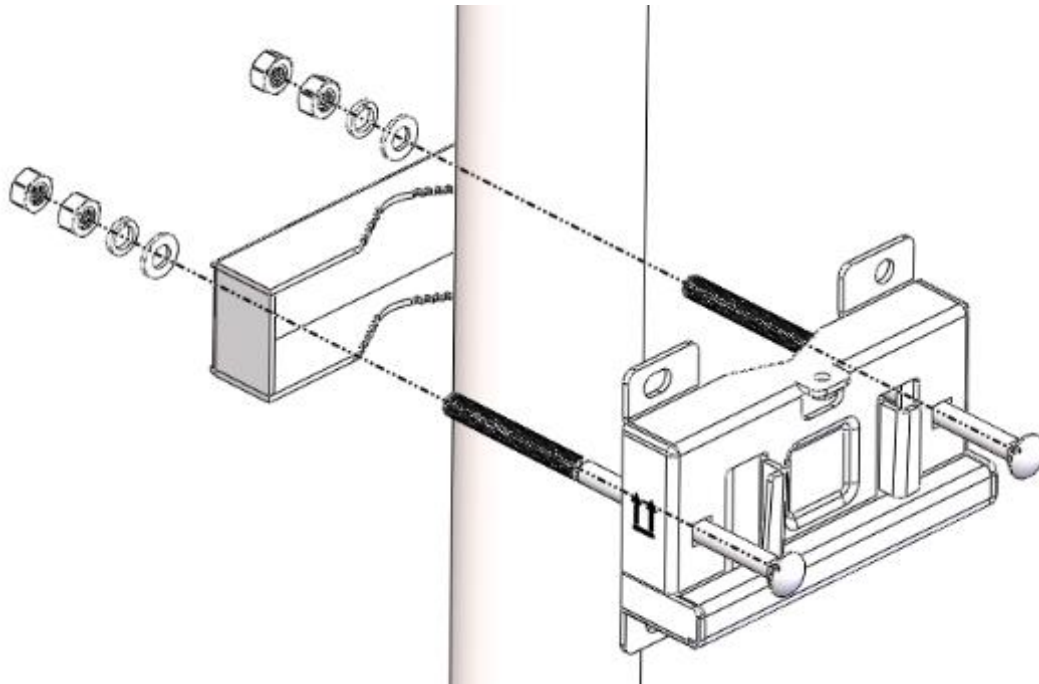

Figure 4-16 Fix the bracket on the rod
1. The Up-Down Activity Bracket and Clamp Plate are installed on the holding pole by M10X150 bolts, nuts, flat washers, and spring washers, as shown in figure 4-16. The diameter of the holding pole should be between 40mm and 120mm and the strength should be sufficient.